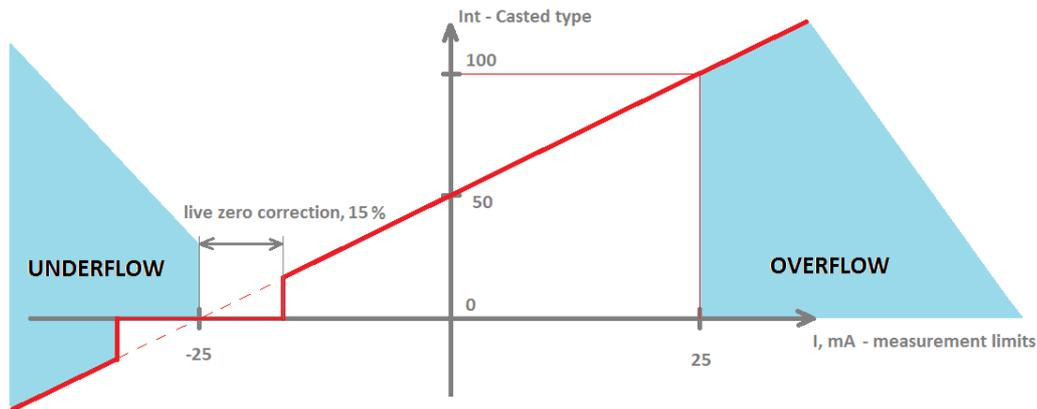

Fig. 1. Conversion graph from raw measurement to cast integer
6. Fig. 1. shows how raw measurement (current in this case) is converted to an integer type. Conversion is done by defining measurement limits (from -25mA to 25mA) and casting data range (from 0 to 100). Measurement limits define thresholds for overflow and underflow errors respectively; casting data range defines limits (from 0 to 100) that value should be between after recalculation. Such a recalculation can be used in applications that require measurements in relative units such as percentage.
A device can round measurements to lower conversion limit (in this case - to zero) if a measurement is near it: $\pm 15\%$ of measurement value (Fig. 1.). Live zero correction is a useful option for eliminating noise. As signals always have some noise level, such an option can compensate it to get a true zero value.